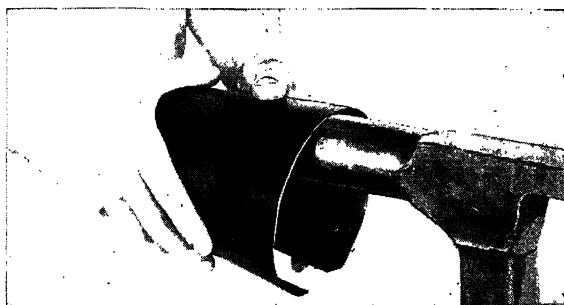

Fig. 54. Forming a cone-shaped vessel on a beak-horn stake. Cylinders are formed in a like manner
Grasp the metal in both hands, and gradually bend it over the stake (see Fig. 54). Stop when the diameter is equal to that desired. If a folded or grooved seam is used for fastening, bend so the folds hook tightly
3. Form the Cone (see Fig. 54)